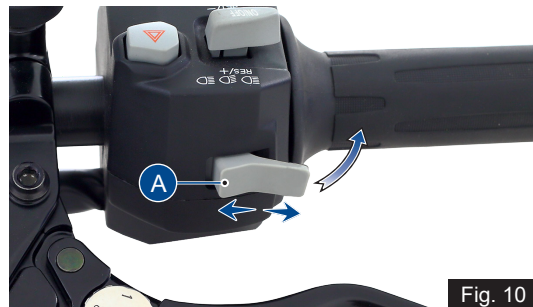

Fig. 10
A) Switch beam control / pass-by (ref. Fig. 10)